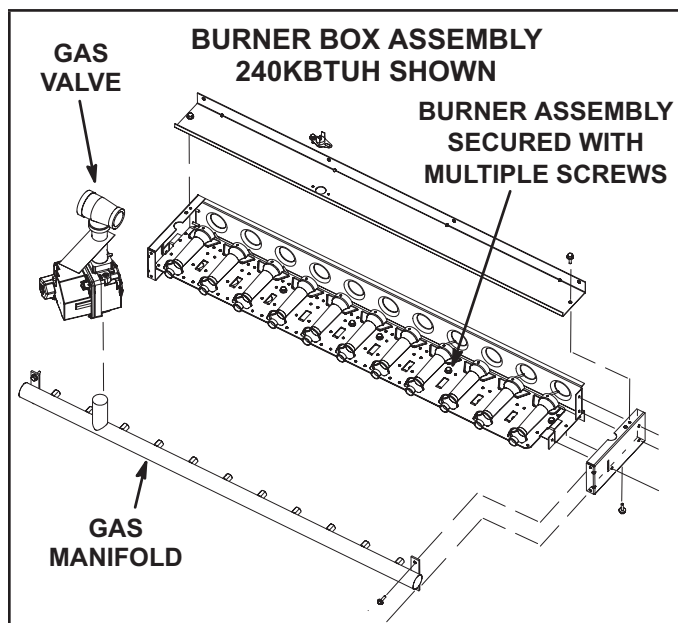

FIGURE 26
- 3 - Remove screws securing burner assembly to burner support and remove assembly. See FIGURE 26. Clean as necessary.